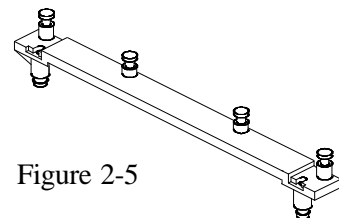

Figure 2-5
- ❑ Heat Sink Support Base (HSSBASE) - Plastic support bar mounted to the mainboard under the ATX heat sink. (Refer to Figure 2-5)